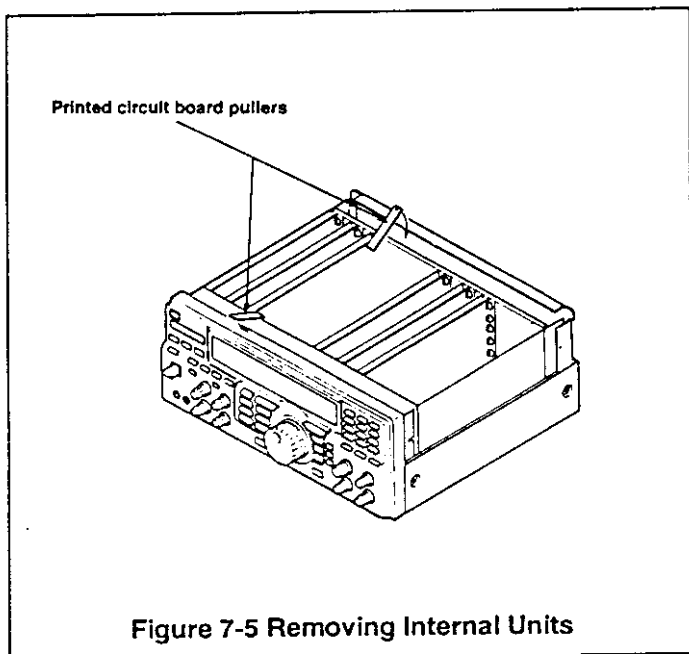

Figure 7-5 Removing Internal Units
- (1) Insert the printed circuit board pullers (option) into the holes on both ends of the printed circuit board from the components mounting side. (See Figure 7-5.)
- (2) Press the printed circuit board pullers down in the direction of the arrow as if they were levers.
- (3) When the printed circuit board comes loose, gently pull the board up to remove.